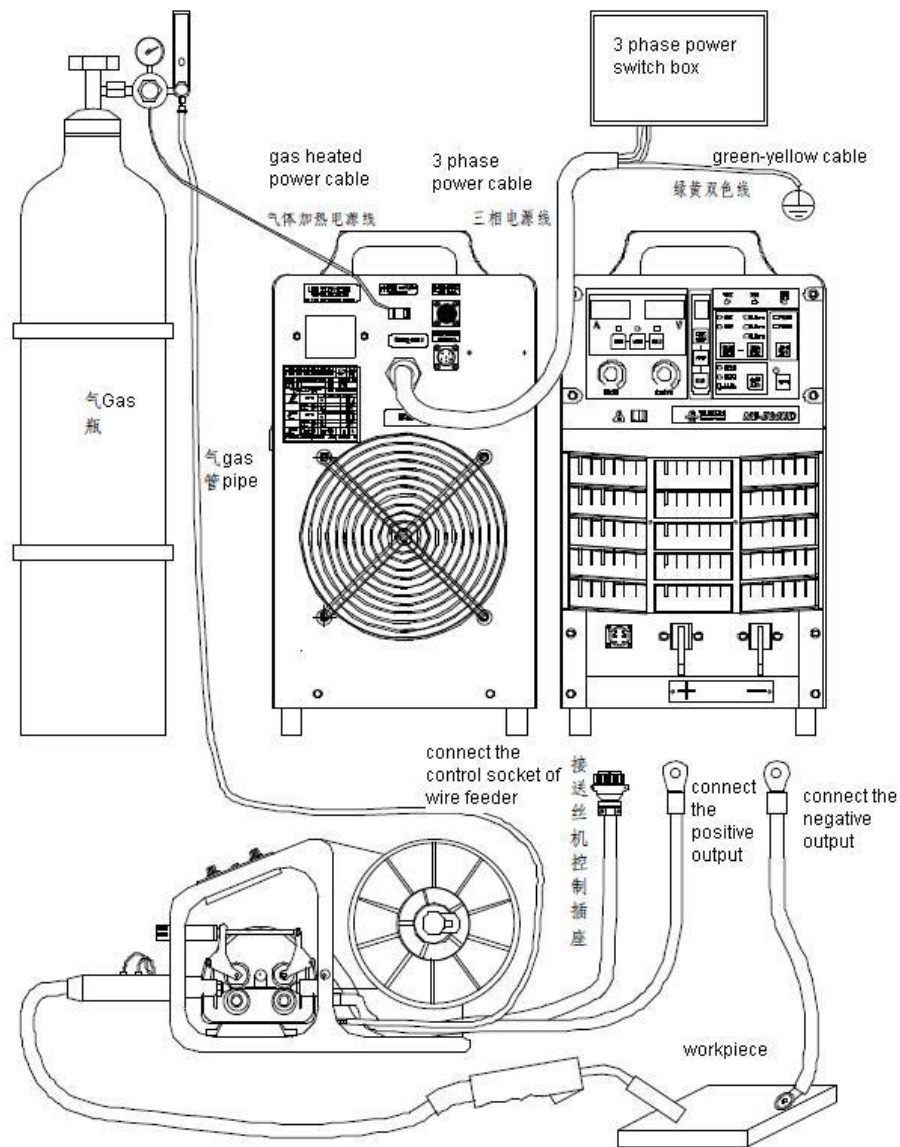

Figure 1
The input three-phase AC 380VAC50HZ(50HZ) is rectified and supplied to the IGBT inverter to produce 20 kHz AC. This AC is transformed by the high-frequency transformer and rectified; then goes into the output of DC power. Please check the figure 1 and 2 electrical schematic diagram of NB-350HD and NB-350HD.
Connection between the welding equipment and other equipment.(As Figure 1)
(2) Connections of the power source, wire feeder and welding torch(please refer to figure 1)